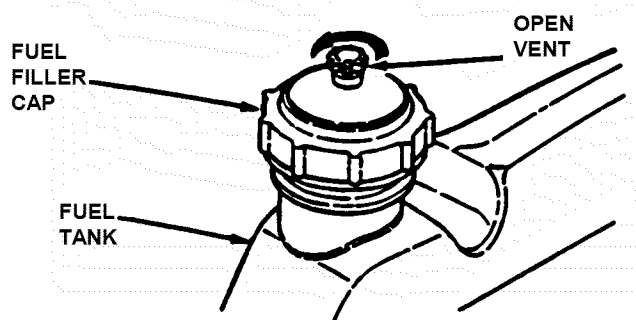

FIGURE 2.2
**2.1.8.** Add fuel to tank after pushing the Rear Engine Rider outside where fumes can dissipate. Make sure fuel filler cap is tight and vent is open after refueling. Refer to engine owner's manual for fuel specifications. See Figure 2.2.
4. Open vent on fuel filler cap by turning counterclockwise. **IMPORTANT:** Failure to open vent on the fuel filler cap can cause engine to stall. See Figure 2.2.